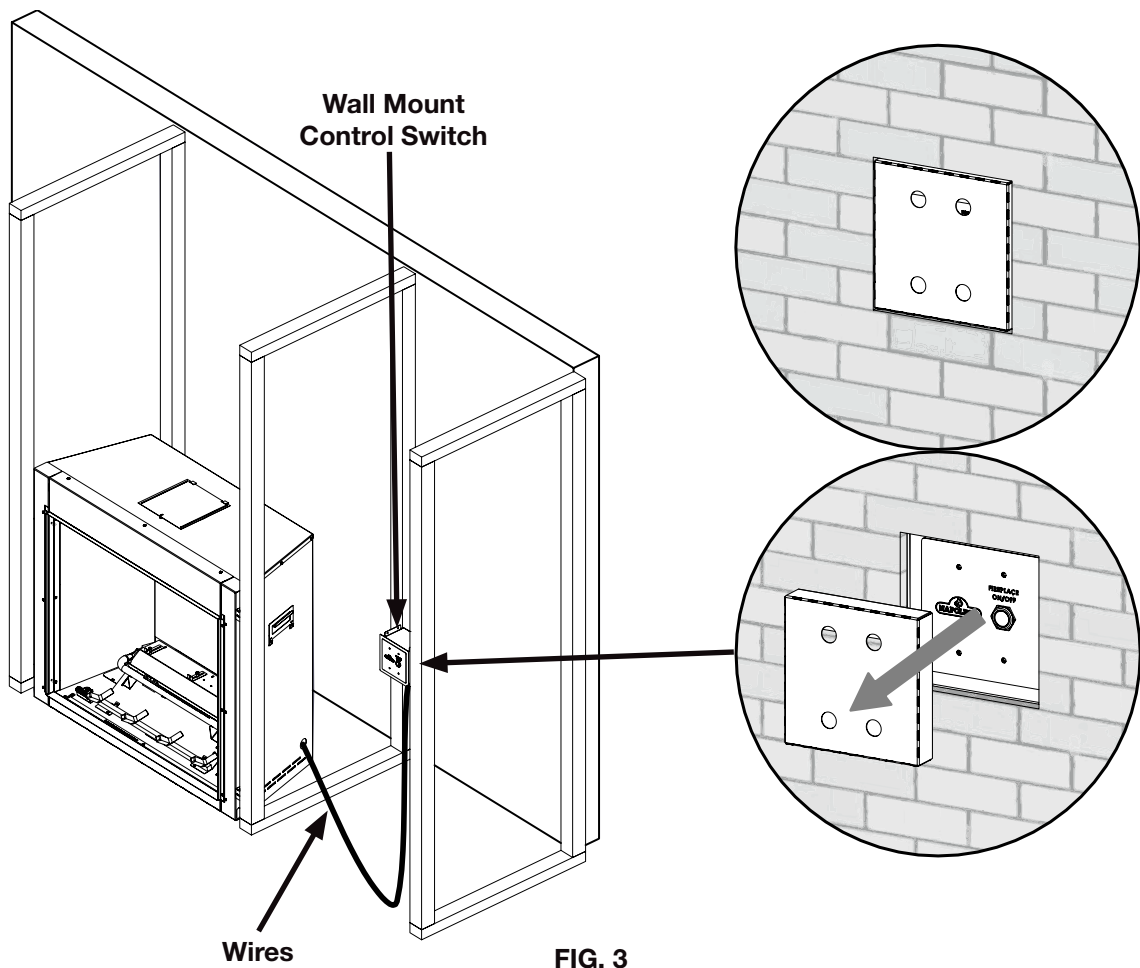

FIG. 3
3. Install the control switch using the nailing tabs and the 20' (6m) wire provided. Note the tabs can be bent for install if required (FIG 3.).
4. Remove the template after finishing materials have been installed (FIG 3.).